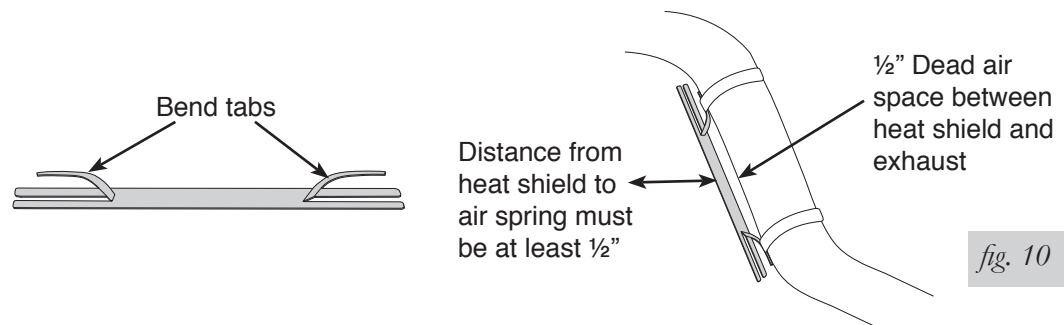

fig. 10
1. Bend tabs to provide a 1/2" dead air space between exhaust pipe and heat shield (fig. 10).
2. Attach the heat shield to the exhaust pipe using the provided clamps. Bend the heat shield for maximum clearance to the air spring (fig. 10).